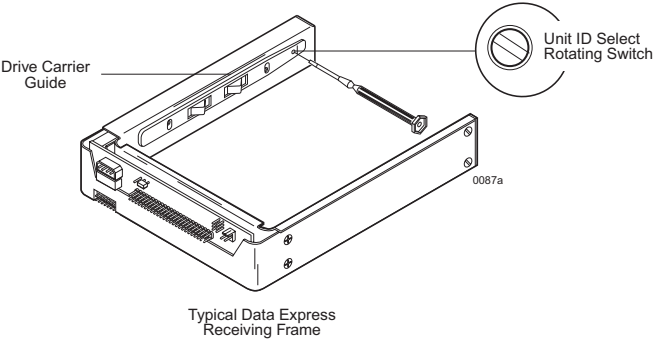

Figure 13: Unit ID Select Switch Location
- **Unit ID Number Indicator** (Figures 3A & 3B) - *This LED is for ID display purposes only.* The DE110 ID is shown if the carrier is *Installed and Locked* in the receiving frame or if the carrier is *removed* from the receiving frame. If the carrier is *Installed but not Locked* in the receiving frame, a "u" will be displayed to indicate an unlocked condition. The unit ID number is selected by means of the unit ID select switch on the front of the receiving frame using a special alignment tool supplied with the DE110 (Figure 13 & Table 1).
3. Use the alignment tool supplied with the DE110 to select the ID number of the disk drive. Refer to Figure 13 for the location of the ID Select Switch inside the receiving frame. Table 1 lists the valid unit ID numbers available for the drive.